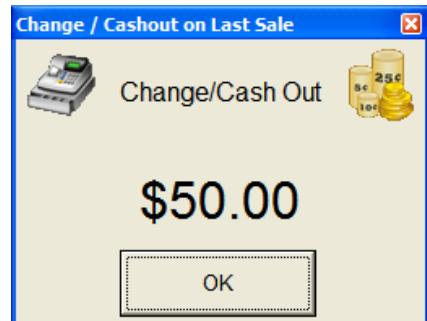

Figure 30
2. Press the plus (+) key for the second time to display the Cash Out required. Click the 'Ok' button to continue (see Figure 30).